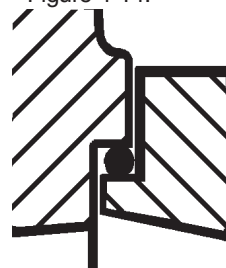
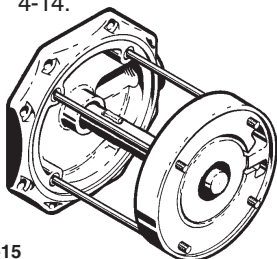

Figure 4-14
Figure 4-15
- c. With the "O"ring facing the inlet cover, slide the diffuser ring onto the guide rods so that it fits over the inducer impeller. Push on firmly until the "O" ring fits inside the lip in the inlet cover. Refer to Figure 4-14.
- e. With the "O" ring facing the motor end, slide the channel ring (#10) onto the guide rods with the water channel facing up. The large inlet opening should be on the same side as the pump inlet. Refer to figure 4-15. Push on firmly until the "O" ring fits inside the lip in the inlet cover (or diffuser ring). Refer to Figure 4-14.
on firmly until the "O" ring fits inside the lip in the left hand channel ring. Refer to Figure 4-14.
- With the "O"ring facing the inlet cover, slide the diffuser ring onto the guide rods so that it fits over the inducer impeller. Push on firmly until the "O" ring fits inside the lip in the inlet cover. Refer to Figure 4-14.
- With the "O"ring facing the motor end, slide the channel ring onto the guide rods with the water channel facing up. The large inlet opening should be on the same side as the pump inlet. Refer to figure 4-15. Push on firmly until the "O"ring fits inside the lip in the inlet cover (or diffuser ring). Refer to Figure 4-14.